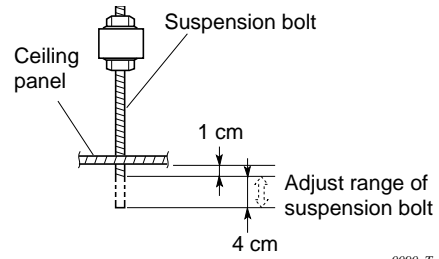

Fig. 3-74
- (2) If a construction beam (or beams) is to be used to suspend the indoor unit, firmly secure the suspension bolts to the construction beam(s) and use the full-scale diagram to reconfirm the bolt mounting positions. (Fig. 3-74)
The lower end of the suspension bolt should be within the indicated adjusted range. (Fig. 3-74)